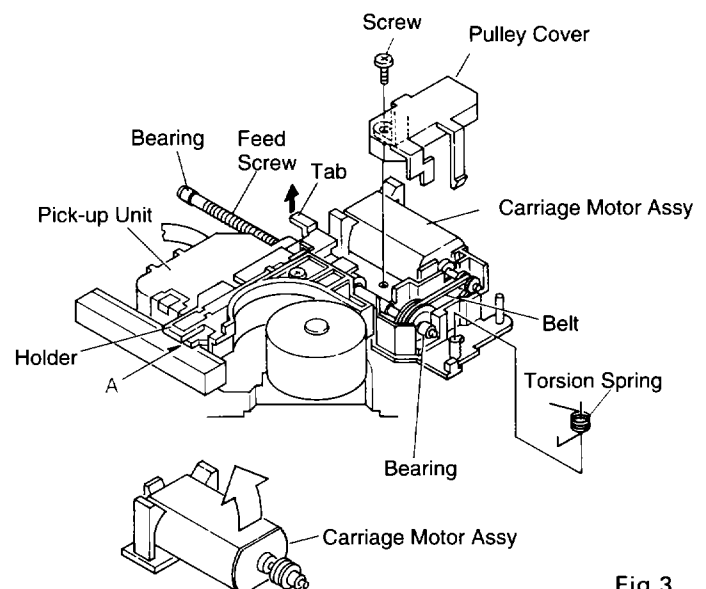

Fig. 3
3. Remove the Torsion Spring which is pressed against the leading edge of the Feed Screw.(Fig.3)
4. Remove the Screw and Pulley Cover.(Fig.3)
5. Remove the Belt and the Pick-up Unit with the Feed Screw still attached.(Fig.3)
6. Lift the Tabs of the rack section of the Holder and remove the Feed Screw. While doing so, be careful not to lose the Bearings on the ends of the Feed Screw.(Fig.3)
● Removing the Carriage Motor Assy (Fig.3)